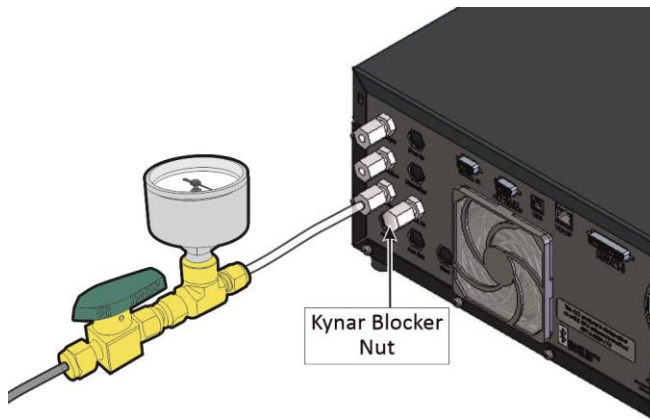

Figure 137 – Blocker BGnd Air Port
5. Refer to Figure 137. Block the instrument's **BGnd Air Port** with Kynar 1/4" blocker nut.